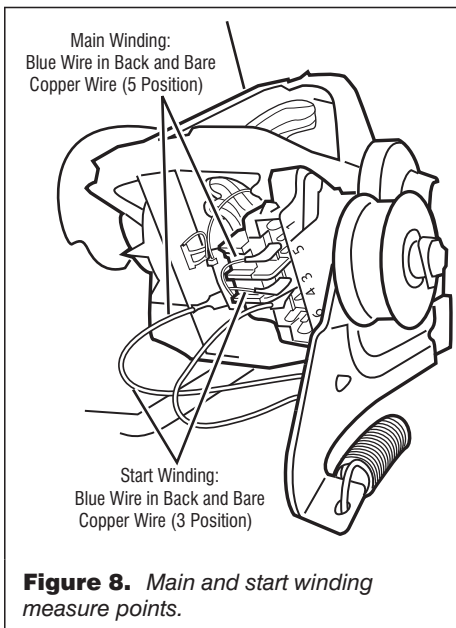

Figure 8. Main and start winding measure points.
6. Using figure 8, check for the resistance values of the motor's Main and Start winding coils as shown in the following table.